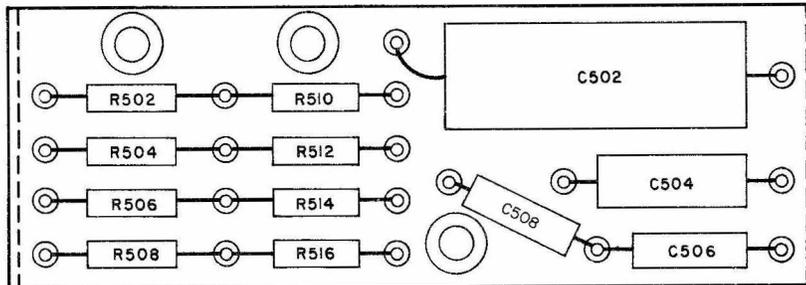

Figure 5-13. Channel A Network Assembly, Location of Rear Components
(6) Channel B A. F. OSCILLATOR board, figure 5-13.